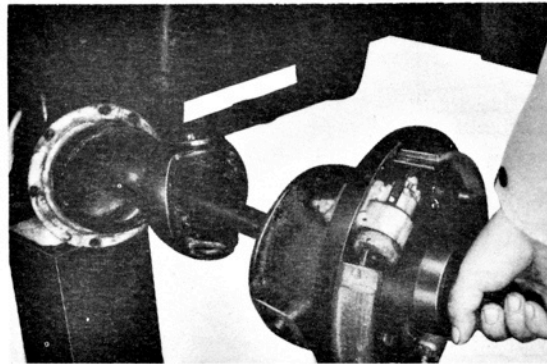

Fig. 5-4.
- 6) Withdraw the front axle shaft together with the associated parts as shown in the Fig. 5-4.